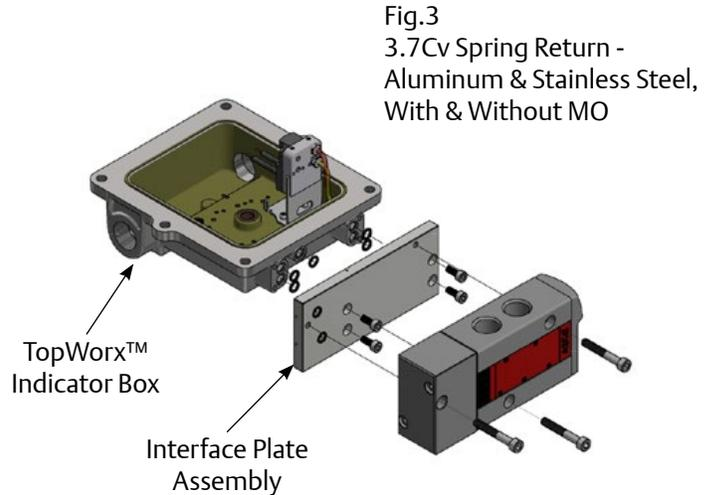

Fig.3
The MO is indicated with symbol (H) in Figure 3. MO provides manual operation when desired or during an electrical power outage. Refer to figure 4 for MO Operation. To engage valve manually, insert a screwdriver into arrow slot, push the MO forward till it stops and then rotate it as far as possible to “2”. Valve will now be in the same position as when the solenoid is energized. To disengage MO, rotate arrow slot as far as possible to “0”.